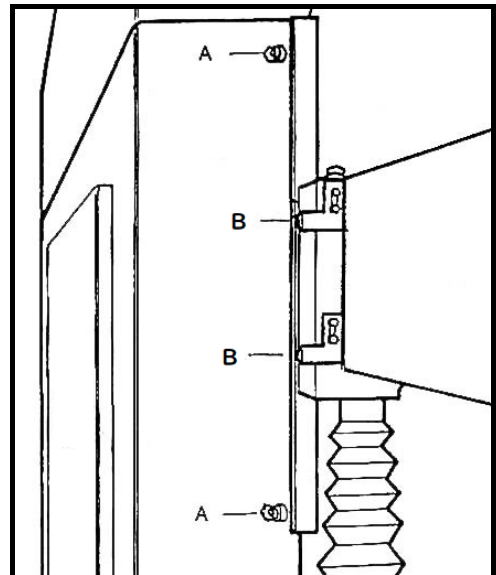

Fig. 5
Limitation for work table raising or lowering, there is a limit switch (A) for each direction of table movement. The power table switches off to prevent damage in maximum high and low position as shown in Fig. 5 (B) is a limit block, micro-switch block.